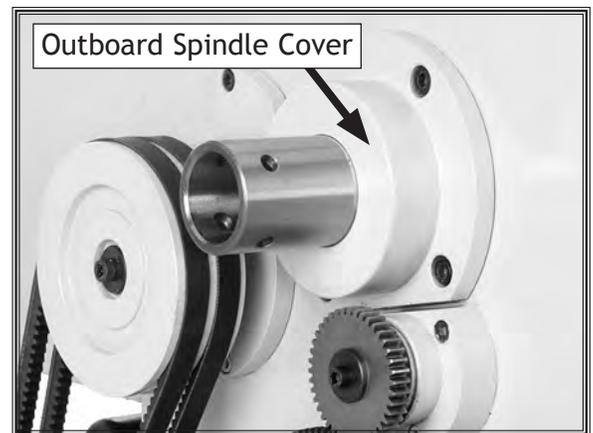

Figure 66. Outboard spindle cover.
3. Remove the chuck, shift the spindle to neutral, then remove the outboard spindle cover (**Figure 66**).